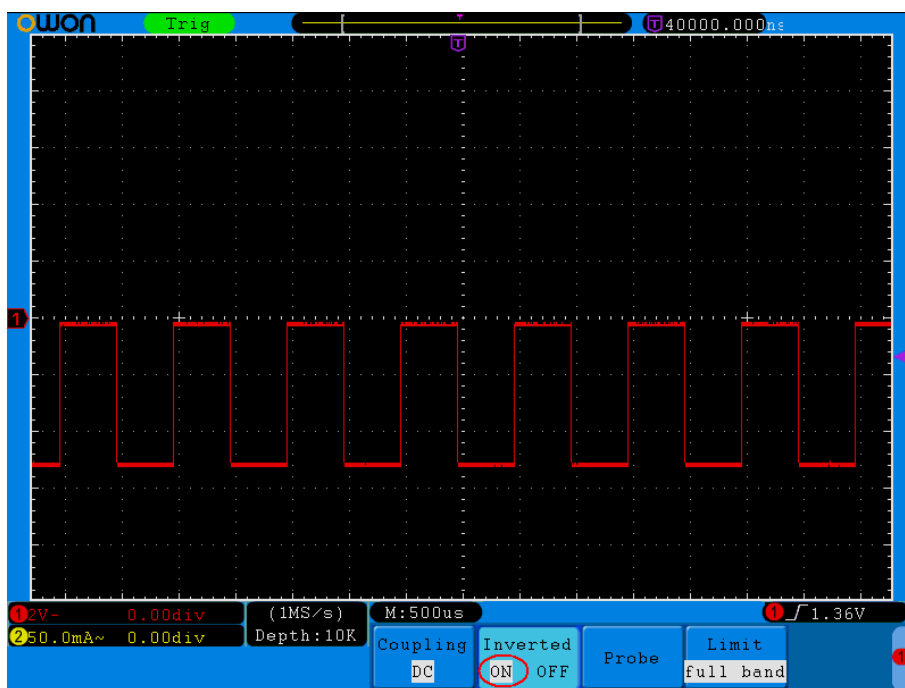

Figure 5-7 Inverted Waveform
- (1) Press the **CH1 MENU** button to show CH1 SETUP menu.
- (2) Press the **H2** menu selection button and select **ON** for **Inverted** item. The waveform is inverted as it is shown in *Figure 5-7*.